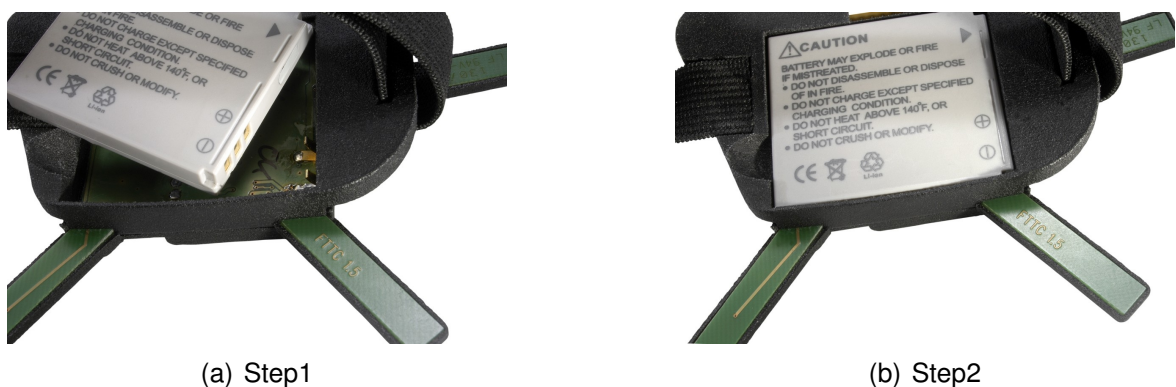

Figure 5.51: Inserting the battery (*Fingertracking* discontinued)
**Inserting the battery** The *Fingertracking* hardware uses standard CAN NB-4L batteries. Two batteries and a charger are provided with each *Fingertracking* set. Squeeze the battery in with the contact side first and then gently press the battery into the compartment until it snaps in (see figure 5.51 on page 113).